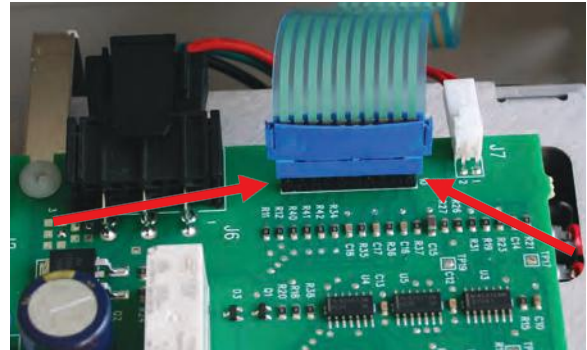

Figure 42 - Step 3 Unplug ribbon cable
3. Grasp the ribbon cable plug by the edges. Carefully unplug the ribbon cable from J1 on the circuit board (Figure 42).